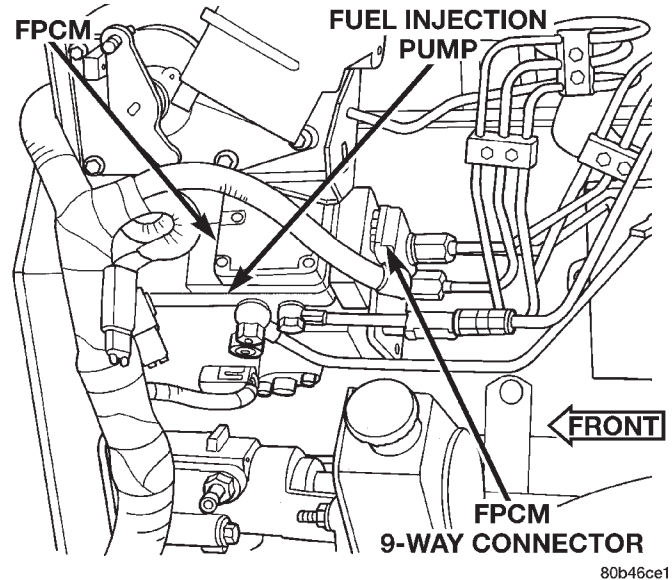

Fig. 63 FPCM 9-Way Connector
- (1) Disconnect both negative battery cables at both batteries. Cover and isolate ends of cables.
- (2) Thoroughly clean fuel lines at cylinder head and injection pump ends. Thoroughly clean fuel injection pump and supply/return lines at side of pump.
- (3) Disconnect 9-way electrical connector at Fuel Pump Control Module (FPCM) (Fig. 63).
(14) Connect 9-way electrical connector to Fuel Pump Control Module (FPCM) (Fig. 63).